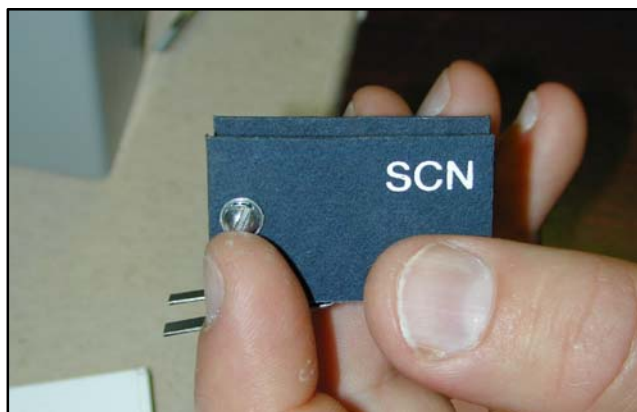

Figure 7-46 Microswitch Insulator with Label
7. Remove the holding screws. Note the microswitch labels on the insulators. See Figure 7-46.